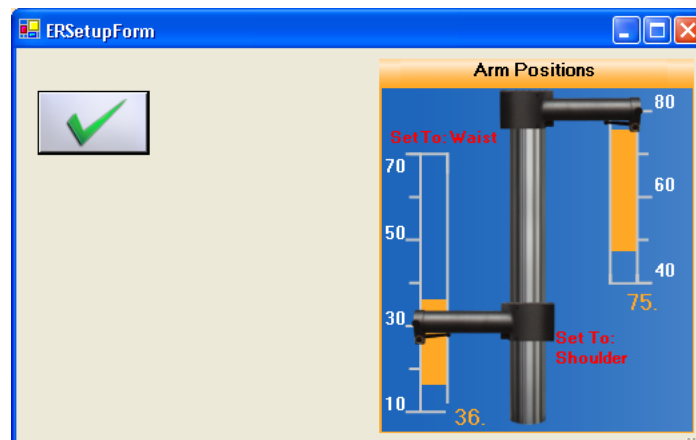

Figure 9-22. Column Load Cell Settings Screens
Step 3. Refer to the Settings screen, which appears prior to the Test Administration screen, for additional test setup requirements (Figure 9-22).